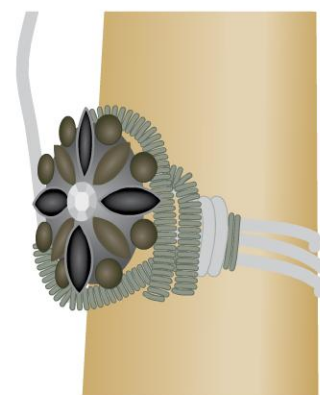

figure 6
- 1 1** Wrap the first wire end around the shank one time, check the ring size, and pull the wire. Repeat this one or two more times (Figure 6).